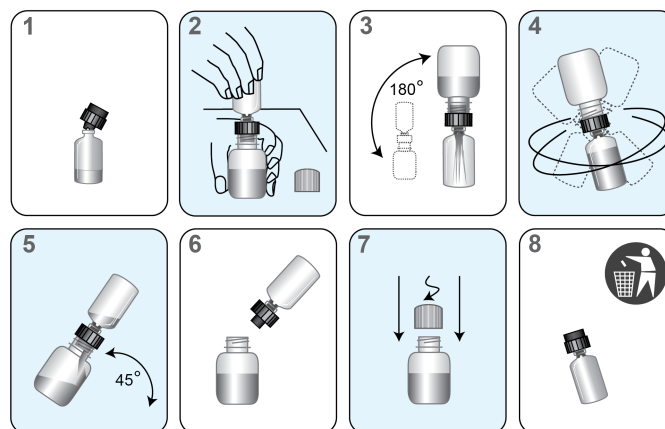

Figure 1. Reconstitution Process
- b. Firmly insert the notched end of the reconstitution collar into the glass vial's opening (Figure 1, Step 1).
- d. While holding the plastic bottle on the bench, firmly insert the other end of the reconstitution collar into the bottle's opening (Figure 1, Step 2).
- e. Invert the assembled bottle and vial. Allow the solution to drain into the glass vial (Figure 1, Step 3). The volume of liquid should exceed the volume of the glass vial, causing some of the liquid to remain in the reconstitution collar.
- f. Gently swirl the solution in the vial to mix (Figure 1, Step 4).
- h. Invert the assembled bottle and vial (Figure 1, Step 5). Allow all of the liquid to drain back into the bottle.
- i. Remove the reconstitution collar and glass vial (Figure 1, Step 6).
- j. Recap the plastic bottle (Figure 1, Step 7).
- m. Discard both the reconstitution collar and glass vial (Figure 1, Step 8).